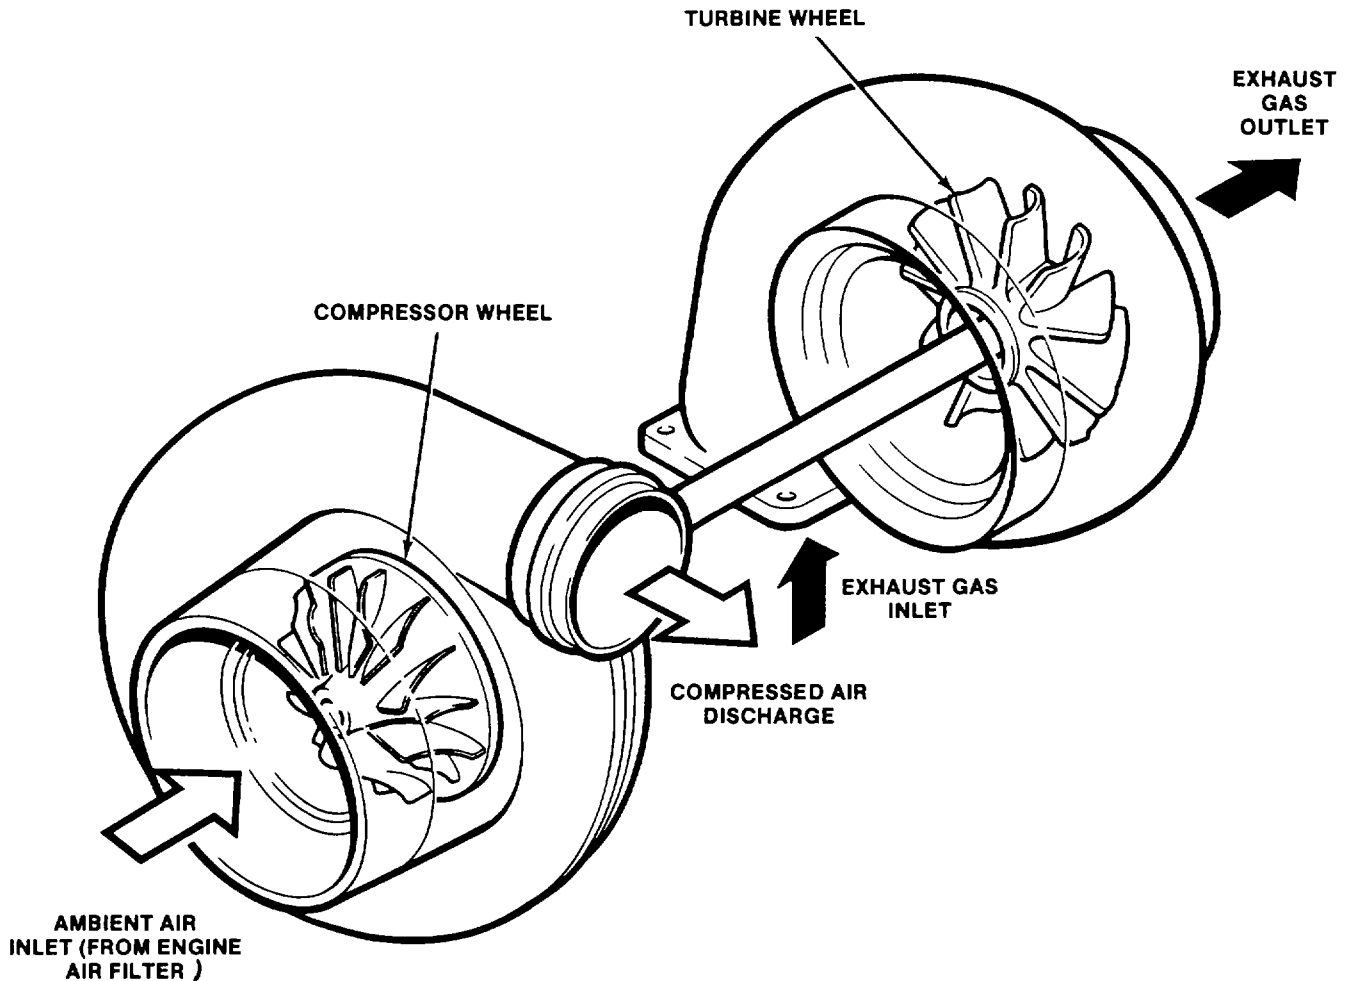

Figure 1-18. Turbocharger
b. Turbocharger The turbocharger compressor wheel and turbine are mounted on a common shaft but located in isolated housings, (see fig. 1-18). The turbine wheel, driven by the hot exhaust gases, drives the compressor wheel. Air from the filter is drawn into the compressor, pressurized, and discharged to the engine blower.